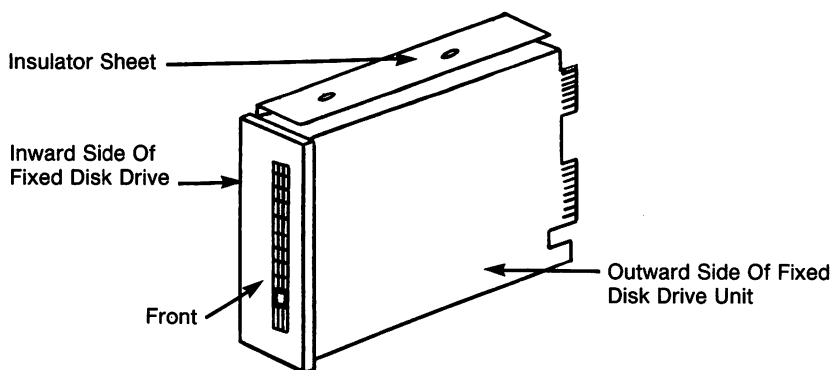

Figure 4-21 Positioning insulator sheet around fixed drive unit
2. Pick up the 10MB fixed disk unit and the insulator sheet. Refer to Figure 4-21 and position the insulator sheet around three sides of the drive unit so that the holes in the insulator sheet and the holes in the top (2 holes) and bottom (1 hole) of the drive unit align.